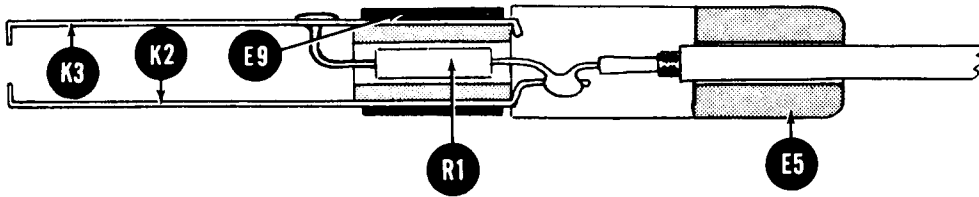
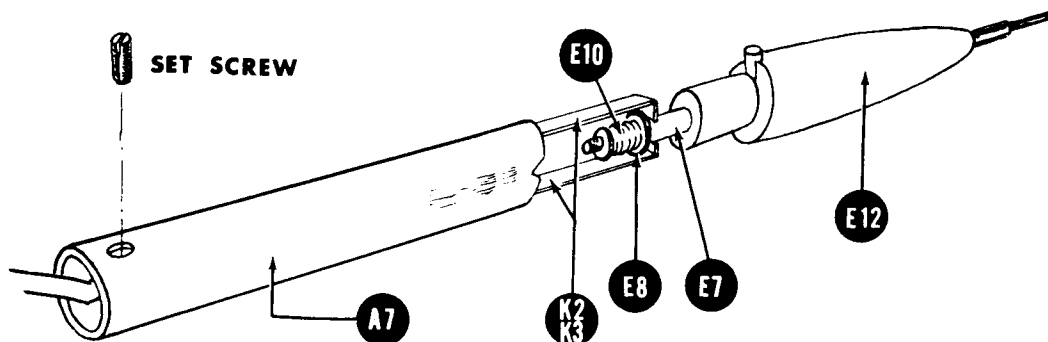

Figure 3
Figure 4
A resistor must usually be added to the UNI-PROBE in order to adapt it for use with most VTVMs. The value of this resistor is discussed in the following section. The mechanical procedure for adding this resistor involves removing the probe shell, as shown in Figure 4. If you bought the probe in wired form, loosen the set screw until the probe shell can be removed. Remove the assembly consisting of K2, K3, E9 and E5, as shown in Figure 3. Solder the resistor R1 to the probe, as shown in the figure. USE ONLY ROSIN CORE SOLDER. Replace the assembly as described in step 8 of the CONSTRUCTION PROCEDURE.
6. ( ) Figure 3. Position the contact holder assembly just completed so that the free ends of contacts K2 and K3 are at the left with K3 (small hole) on top. Position the body of the isolation resistor R1 (previously removed from the old DC test lead) as shown, and pass one lead through the small hole in K3. Then trim off the excess lead and solder the connection between R1 and K3. Connect the other lead of R1 to the extension of the bottom contact K2 by first shaping the lead to lay flat against the K2 extension and then bending it back underneath. Close the U-shaped bend in the lead (with pliers) to grip the K2 extension firmly, then trim off the lead. This connection will be soldered in the next step.
7. ( ) Figure 3. At one end of the coaxial cable strip away 1/2" of outside insulation and outer metal braid and 1/4" of inner insulation exposing the inner conductor. Insert the coaxial cable end, so prepared, into E5 as shown, and solder the inner conductor to the extension of contact K2, to which one lead of R1 was previously connected.
9. ( ) Figure 4. Slip the free end of the coaxial cable into the notched end of the probe body A7. Move the probe body down the cable over the contact holder assembly until only the ends of contacts K2 and K3 protrude from it, as shown. Push the fiber washer E8 away from the blunt end of the nosepiece, simultaneously compressing spring E10, and hold E8 in this position with one hand. Fold the palm of the other hand around the probe body with the thumb and forefinger of this hand in a position to press the ends of K2 and K3 together. Now align the two sections of the probe as shown in Figure 4, the jaws formed by the ends of contacts K2 and K3 pressed closed on fiber tube E7, between E8 and the blunt end of the nosepiece. Release fiber washer E8 (and the spring) to pin the closed jaws formed by contacts K2 and K3 against the blunt end of the nosepiece but continue to press the jaws closed or one or both of the contacts will slip out. Now use the hand that has just been freed to move the probe body down the contacts to the jaw formed by the ends, releasing your pressure on the jaws only when the end of the probe body is sufficiently close to the jaws to ensure that the contacts will not spring free. Then move the probe body down on the nosepiece until either one of the notches engages the red pin. Now, grasp the probe body in one hand and close the 3rd, 4th and 5th fingers of the other hand about the coaxial cable at a point about 2" from the end of the probe body. Pull on the cable until the emerging end of the black fiber contact holder E5 can be gripped by thumb and forefinger. Maintaining your grip on the cable, rotate E5 until the No. 8 threaded hole is directly under the No. 8 hole in the probe body, then insert the No. 8-32 x 1/4 set screw. Turn the screw until its head is just below the surface of the probe body.